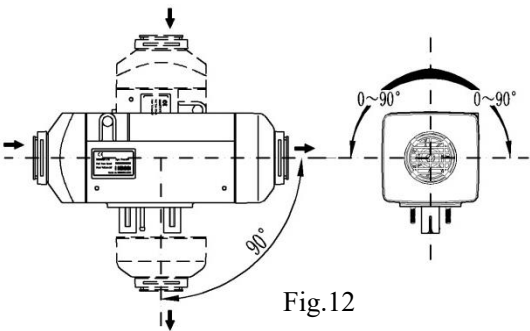

Fig.12
4.2.5 Direction for installation of the heater is shown in Fig. 12. Attention must be paid to that the inclination angle shall not exceed the limit, or normal operation will be affected.